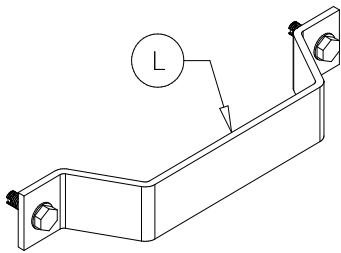

Figure 21
Note: The pivot arm guides (L) (see Figure 21) prevent the tarp from shifting to either side of the box when the tarp is in the closed position.